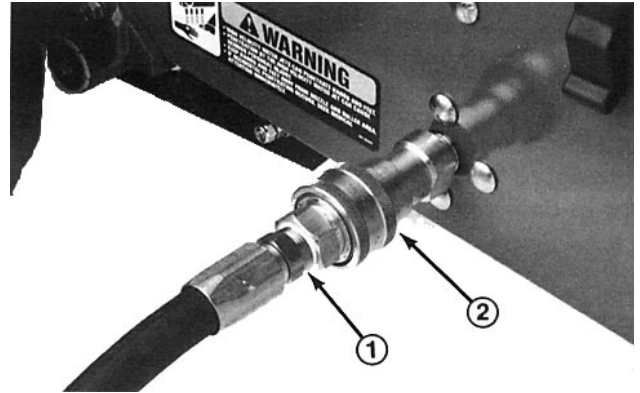

Figure 8
3. Connect the hose adapter (Fig. 8) to the garden hose, then connect the adapter to the quick coupler on the side of the machine.